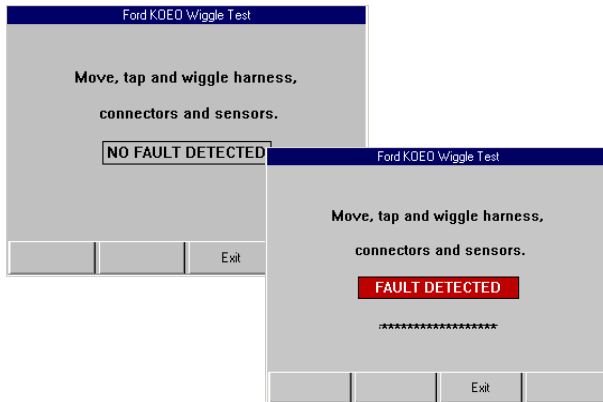

Figure 6.19: Wiggle Test Screens — No Fault and Fault Detected
- 7 Read the screens and follow all instructions. If necessary, use the **function keys** to answer any questions. Do this until the test screen appears (Figure 6.19 on page 33).